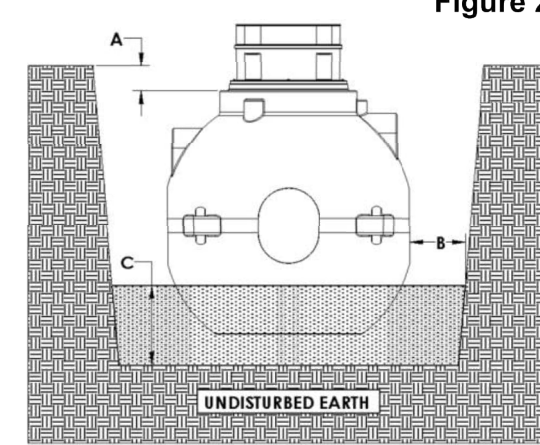

Figure 2
- Lid and Manhole Extension [Figure 2]**